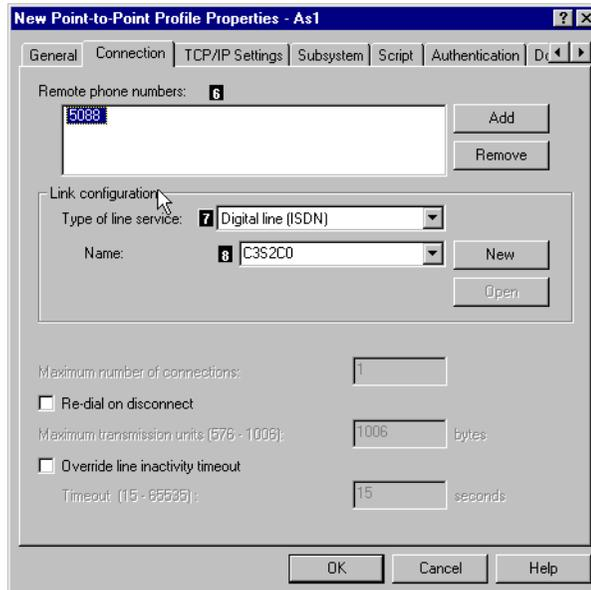

Figure 62. Connection page of the PPP profile as a switched dial
3. Select and configure the **Connection** page (Figure 62) of the PPP profile.